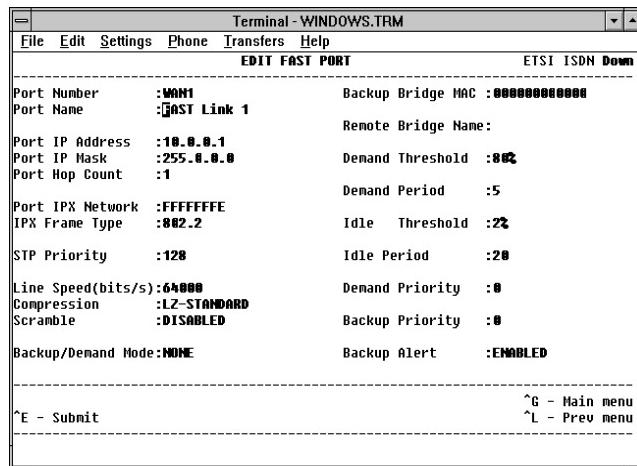

Figure 1-20 Edit WAN Port Screen
- c Enter **ED** to display the Edit WAN Port screen shown in Figure 1-20.